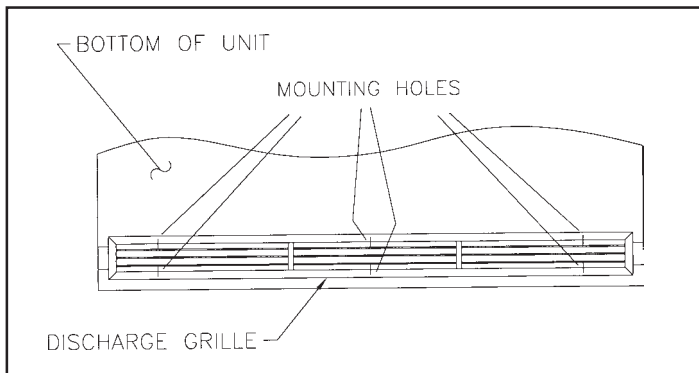

FIGURE 14 - Louvered Discharge Grille Installation
- N. Attach the louvered discharge grille to the unit with the six (6) No. 6 x 3/4" phillips head screws provided. **See Figure 14.**
1. Remove the discharge grille by unscrewing the six (6) Phillips head screws located on the inside edge of the grille. **See Figure 14.**